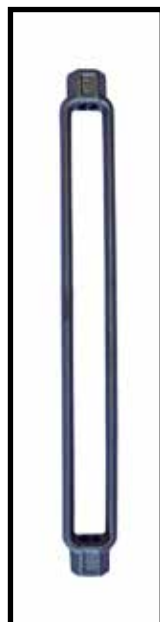

Figure 6:
- Four Turnbuckles (Figure 6).